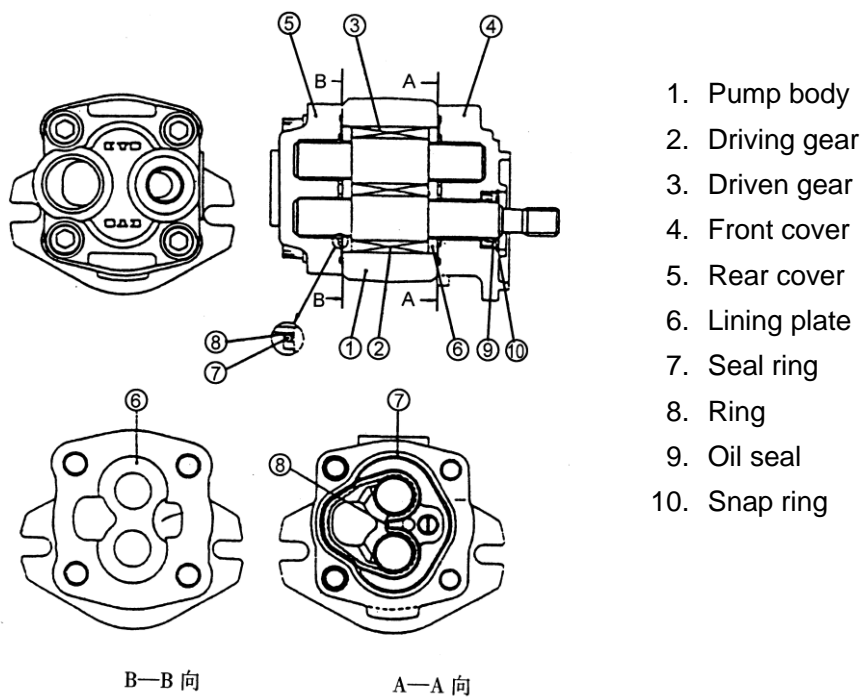

Fig6.1 Hydraulic pump
6.2 Hydraulic oil pump (Fig6.1)